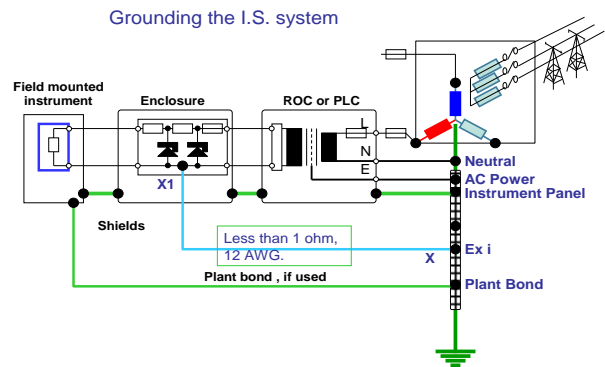

Figure 12. Intrinsically Safe Grounding Circuit
Simply put, the ground circuit from the intrinsically safe, zener barrier to the true, power ground, shown as “X1-X” in Figure 12, must be dedicated, green or green/yellow in jacket color, 12 AWG, and measure less than one (1) ohm.